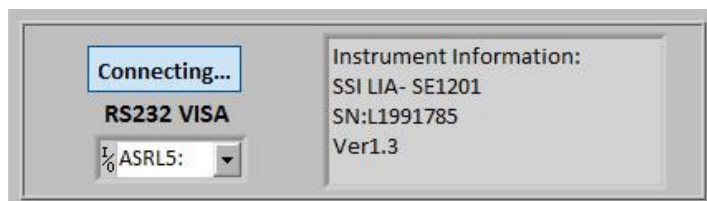

Fig.36 Connection Succeeds
The program begins to run and search for the proper COM automatically. If the connection succeeds, you will see the version information in Fig.36.
- If the COM is right, wait for a few seconds and the connection status will refresh to Fig.36.